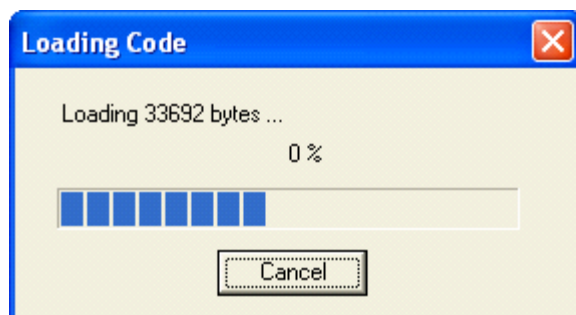

Figure A-7. Loading window
4. The pop-up in Figure A-7 appears to load the built image to JM128 Flash